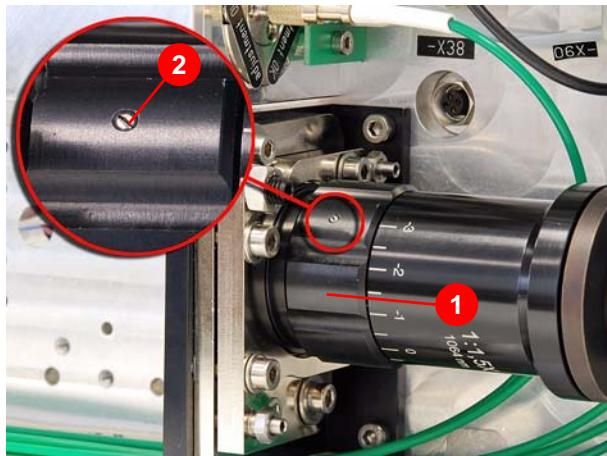

Figure 6.49 Setting the focal point
- Adjustment OK (1) (circular cross-section)
- Too wide (2) (circular cross-section)
- Y dimension too wide (3) (cross-section elliptical, x axis > Y-axis)
- X dimension too wide (4) (cross-section elliptical, X axis < Y-axis)
11. If necessary, change the focal point by adjusting the adjusting ring (1) (Figure 6.49).